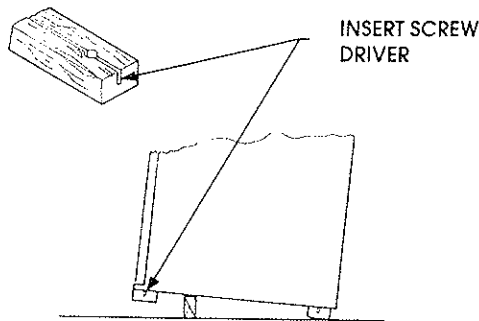

Figure 1
4. Remove the "Knock-A-Way" support by placing a 2x4 under the vendor, inserting a large screwdriver or prying tool into the groove of the Knock-A-Way and splitting it in two. Turn the leveling screws in as far as possible. See **Figure 1**.